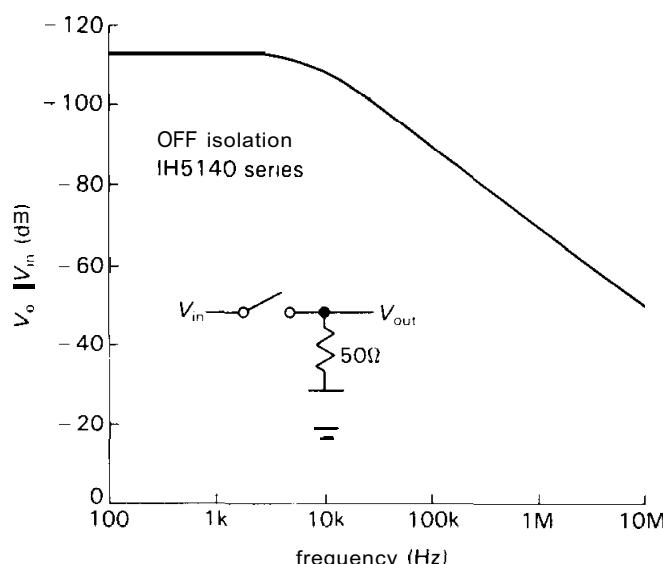

Figure 3.45
**$C_{DS}$ : Capacitance from input to output.** Capacitance from input to output causes signal coupling in an OFF switch, rising at high frequencies. Figure 3.45 shows the effect for the IH5140 series. Note the use